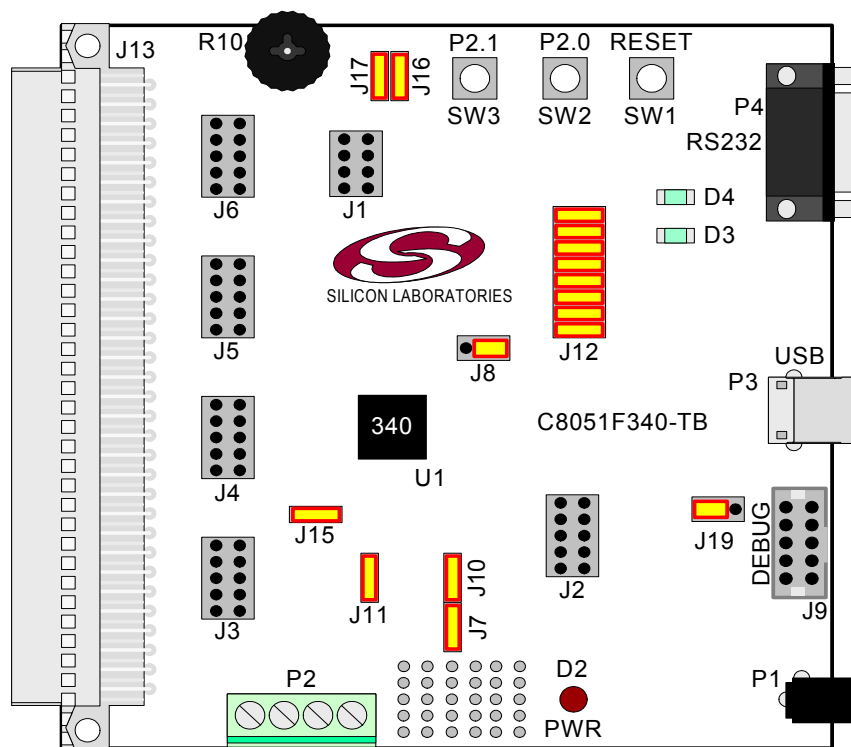

Figure 2. C8051F340 Target Board
1. Connect the USB cable between the host computer and the C8051F340 target board, as shown in Figure 2. See Figure 2 on page 6 for the location of the USB connector.
5. See Figure 2 on page 6 for the location of headers, LEDs, switches, and potentiometer.
The C8051F34x Development Kit includes a target board with a C8051F340 device pre-installed for evaluation and preliminary software development. Numerous input/output (I/O) connections are provided to facilitate prototyping using the target board. Refer to Figure 2 for the locations of the various I/O connectors.